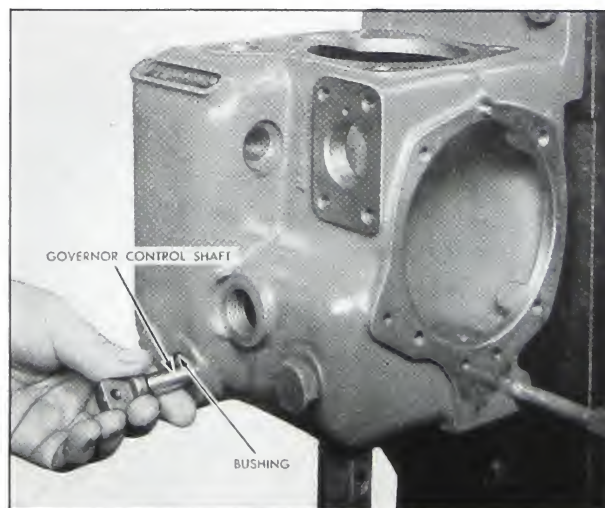

Fig. 5-134. Testing for wear of shaft bushing
2. Test shafts individually in newly reamed bushings, Fig. 5-134. Remove all burrs or sharp edges with a bearing scraper, if this was not done during the rebuilding process.